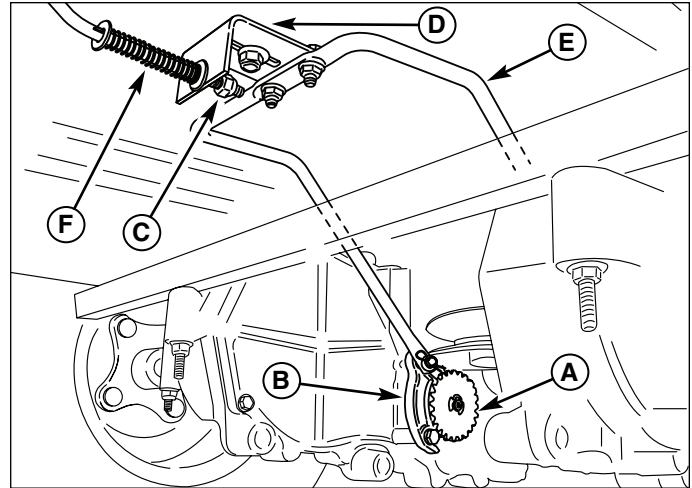

Figure 11. Parking Brake Adjustment
3. Before attempting brake adjustment, check the brake gear (A, Figure 11), brake arm (B), park brake bracket (D), brake rod (E), and compression spring (F) for dirt or debris that may affect brake operation.
4. Check to see that the brake arms (B) are engaged against the brake gears (A), with the teeth on the arms meshing with the teeth on the gears.